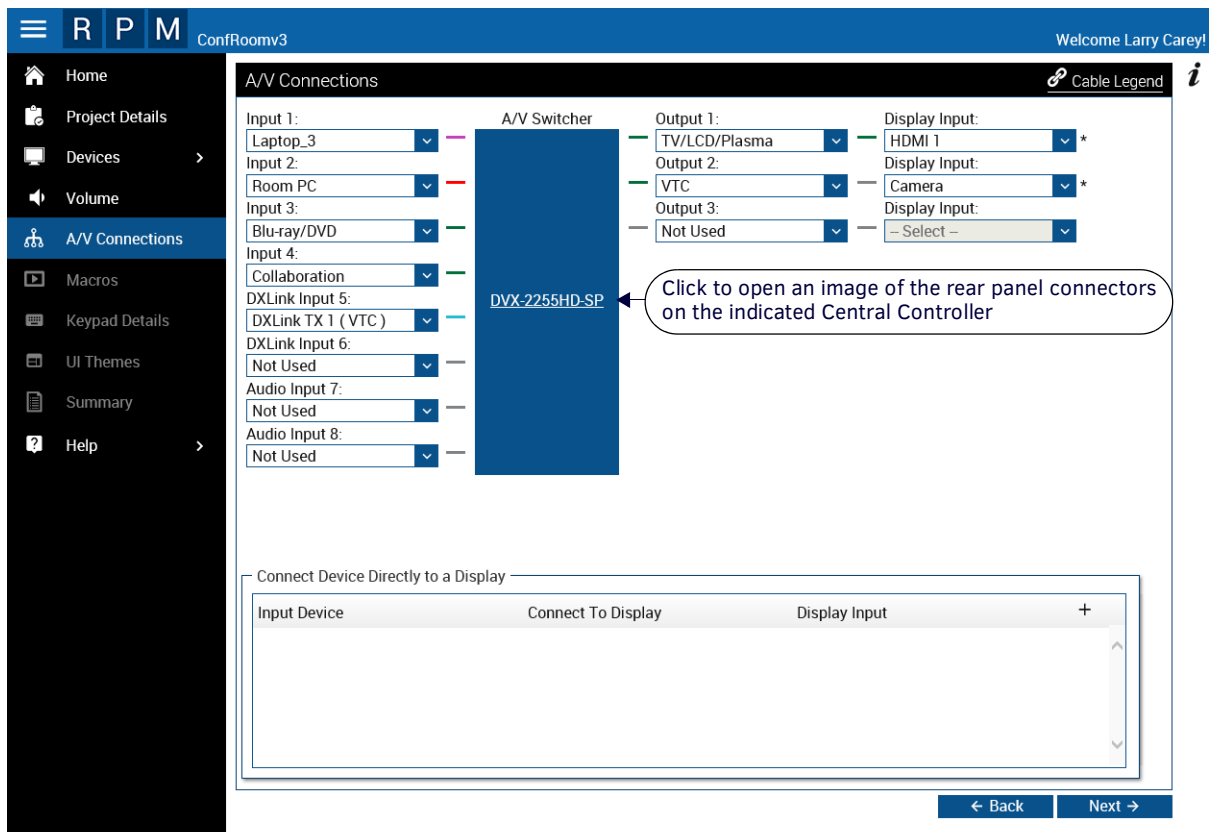

FIG. 29 Sample A/V Connections page
7. Click **Next** to proceed to the *A/V Connections* page. The options on this page allow you to specify the physical connections for the A/V devices in the system (see FIG. 29 on page 23).
6. Click **Next** on the *Volume* page to proceed to the *A/V Connections* page (FIG. 29). Use the options on this page to route audio and video from each source device to the desired input or output on the A/V Switcher. Note that RPM provides a default connection configuration which can be altered as desired.
- Use the **Input Devices** drop-down menus to assign the source devices in your project to the various inputs available on the selected DVX A/V Switcher. Note that by default, the Input Device assignments are pre-populated based on the devices in your project. Use the Input Device drop-down menus (see FIG. 29) to select a different device for each input if necessary.